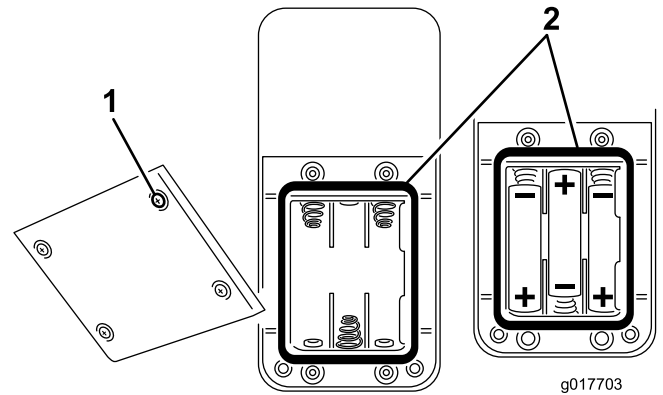

Figure 31
2. If installing batteries in an empty battery compartment, install three fresh size AAA batteries. Be sure to position the batteries as shown in Figure 31.
3. If replacing expired batteries, remove the old batteries and install three fresh size AAA batteries. Be sure to position the batteries as shown in Figure 31.